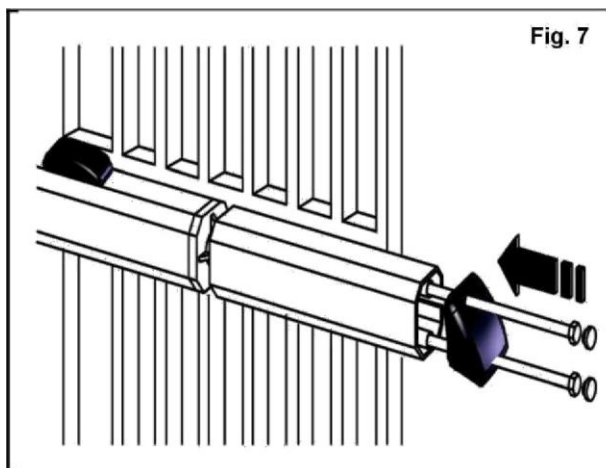

Fig. 7
N) Position the cover on the actuator (Fig.7).